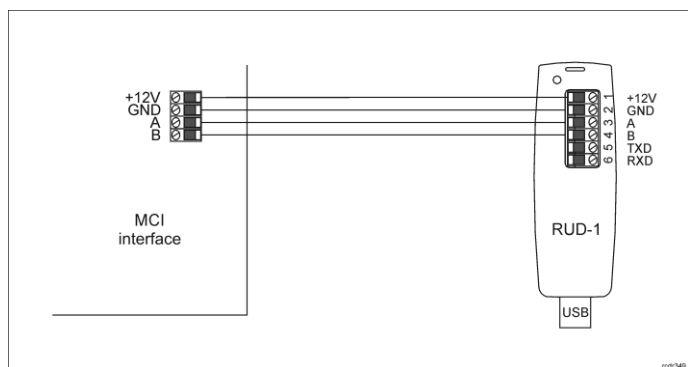

Fig. 1 Connection of the MCI-5 to RUD-1 interface for configuration
1. Connect the device to RUD-1 interface (fig. 1) and connect the RUD-1 to computer's USB port.